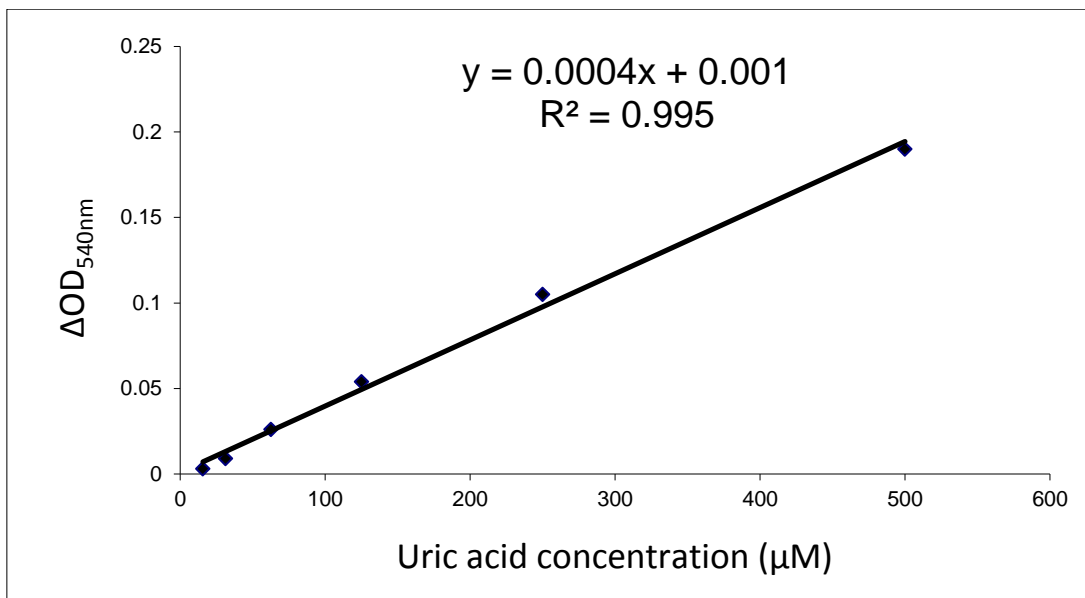

Figure 1. A typical uric acid standard curve measured by ScienCell™ Uric Acid Assay kit
Data from Uric Acid Assay of uric acid solutions with concentrations ranging from 15 to 500 μ M show a linear relationship between OD_{540nm} and uric acid concentration (Figure 1).
2. Based on the calibrated $\Delta\text{OD}_{540\text{nm}}$ of the uric acid standard, make a standard curve by plotting $\Delta\text{OD}_{540\text{nm}}$ as a function of uric acid concentration (See Figure 1 for a typical standard curve). Determine the equation and R^2 value of the trend line.